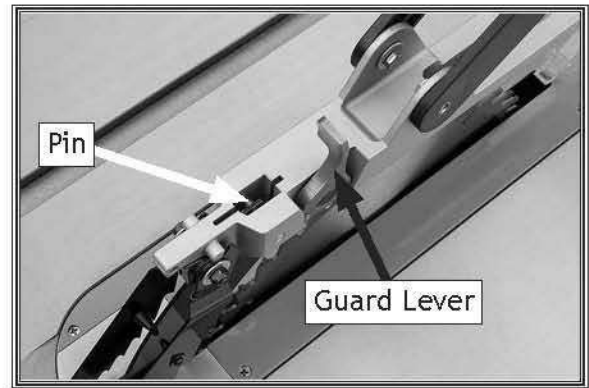

Figure 48. Blade guard installation.
8. Insert rear pin on blade guard into rear slot of spreader (see **Figure 48**), then push down on blade guard assembly so forward pin slides into forward slot of spreader.